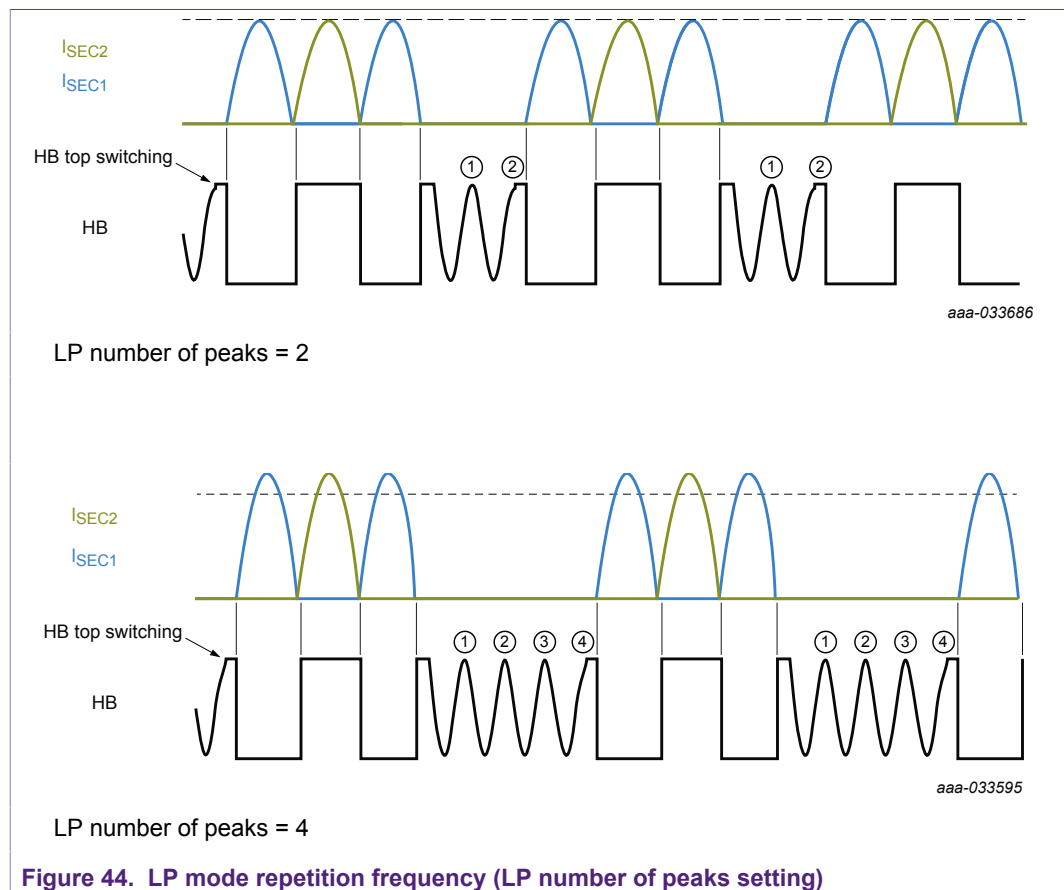

Figure 44. LP mode repetition frequency (LP number of peaks setting)
The repetition frequency of the low-power (LP) mode cycles can be selected using the number of peaks parameter. The selection options are from 1 to 8 in steps of 1. Figure 44 shows the situation for the value 2 and 4.